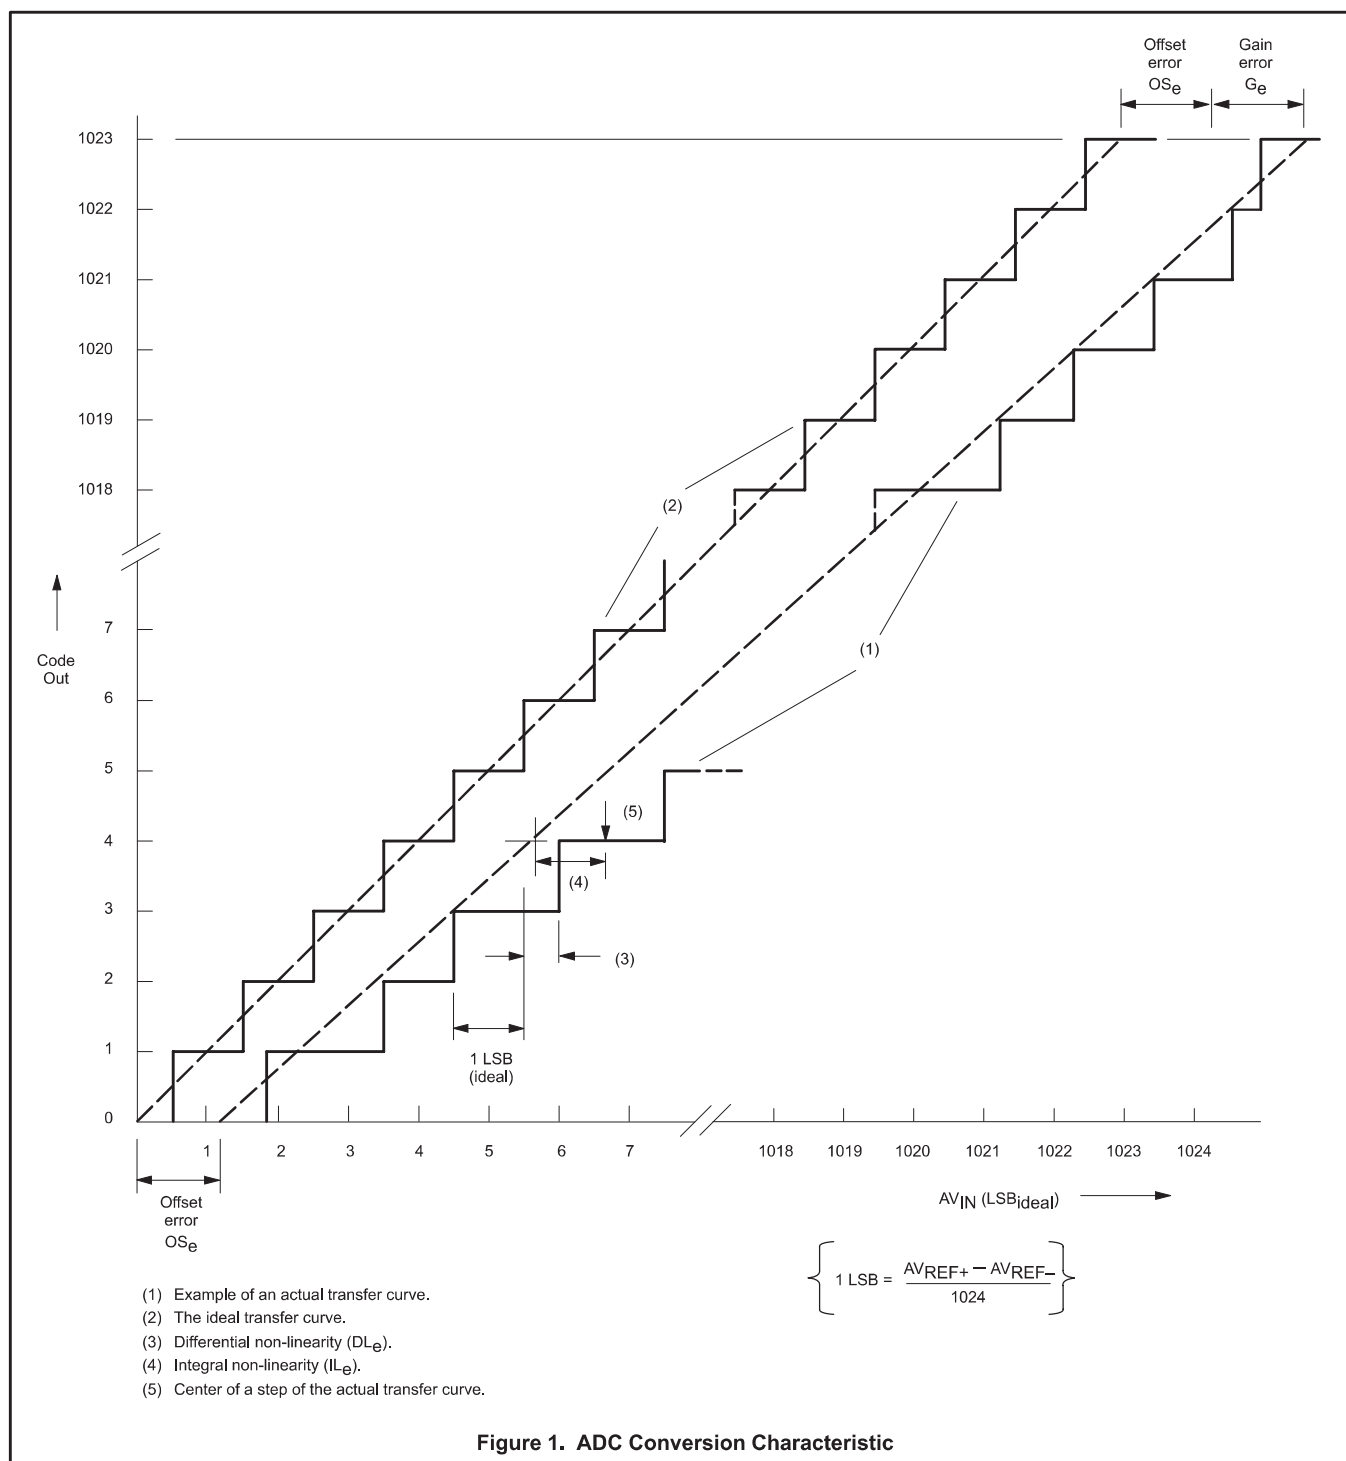

Figure 1. ADC Conversion Characteristic
- The differential non-linearity (DL_e) is the difference between the actual step width and the ideal step width. (See Figure 1.)
13. The integral non-linearity (IL_e) is the peak difference between the center of the steps of the actual and the ideal transfer curve after appropriate adjustment of gain and offset error. (See Figure 1.)
14. The offset error (OS_e) is the absolute difference between the straight line which fits the actual transfer curve (after removing gain error), and a straight line which fits the ideal transfer curve. (See Figure 1.)
15. The gain error (G_e) is the relative difference in percent between the straight line fitting the actual transfer curve (after removing offset error), and the straight line which fits the ideal transfer curve. Gain error is constant at every point on the transfer curve. (See Figure 1.)